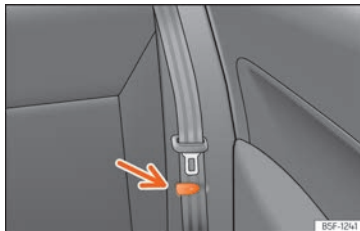

Fig. 104 Rear seat: clip to hold the seatbelt in place.
- Place the side seat belts in the trim clip »» Fig. 104.